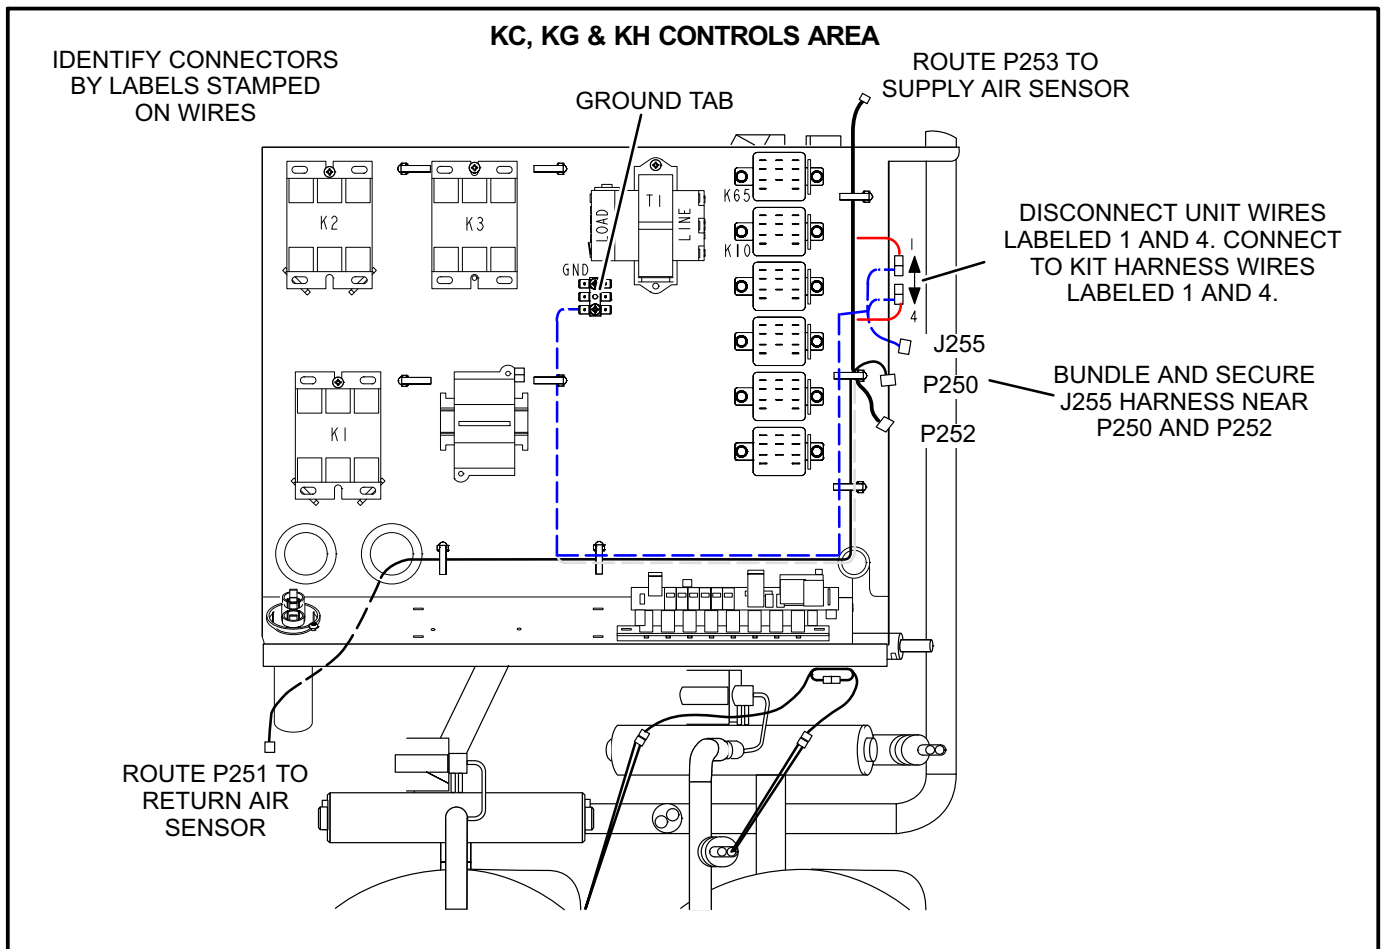

FIGURE 4
- 2 - Locate and disconnect wires labeled 1 and 4 in control area. See figure 4.
- 3 - Locate power harness which has three quick-connect terminals on one end of harness. Connect wires labeled 1 and 4 to terminals disconnected in previous step. Connect wire labeled GND from power harness to ground tab in unit. Position J255 plug near P250 and P252 plugs. See Figure 4.